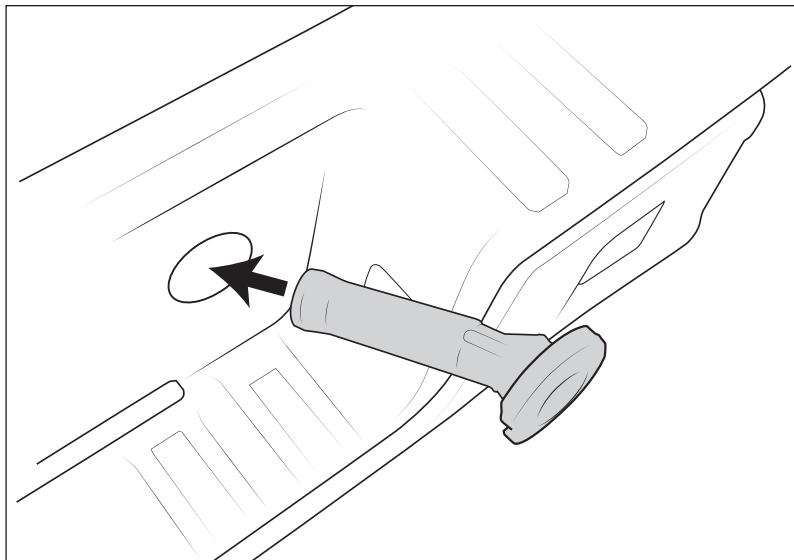

Figure 7
2. Align new spare tire tube and push until it clips in (fig. 7).